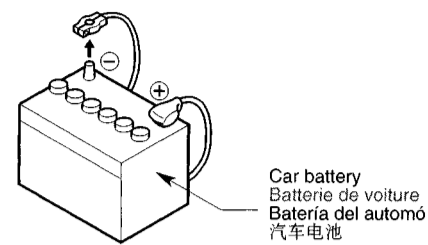

Figure 1 / Figure 1 / Figura 1 / 图 1
3. Be sure to disconnect the battery "⊖" terminal before starting. This is to prevent short circuits during installation. (Figure 1)
3. S'assurer de débrancher la borne "⊖" de la batterie avant de commencer. Cela évitera les court-circuits pendant l'installation. (Figure 1)
3. 开始之前请务必断开电池的 "⊖" 端子，以免在安装中造成短路。(图 1)